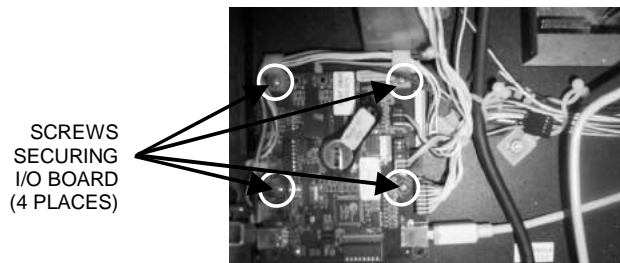

FIGURE 13 - ORIGINAL I/O BOARD IN ELITE GAME
4. Remove the 4 screws securing the I/O board, and then remove the I/O board from the game. See Figure 13.